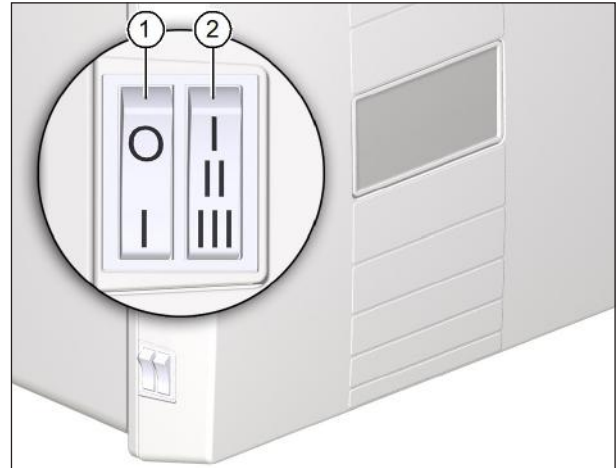

Fig. 10: Controls on the ventilation unit
- ▶ Switch the ventilation unit on at the mains switch (item 1 in Fig. 10 on page 16).